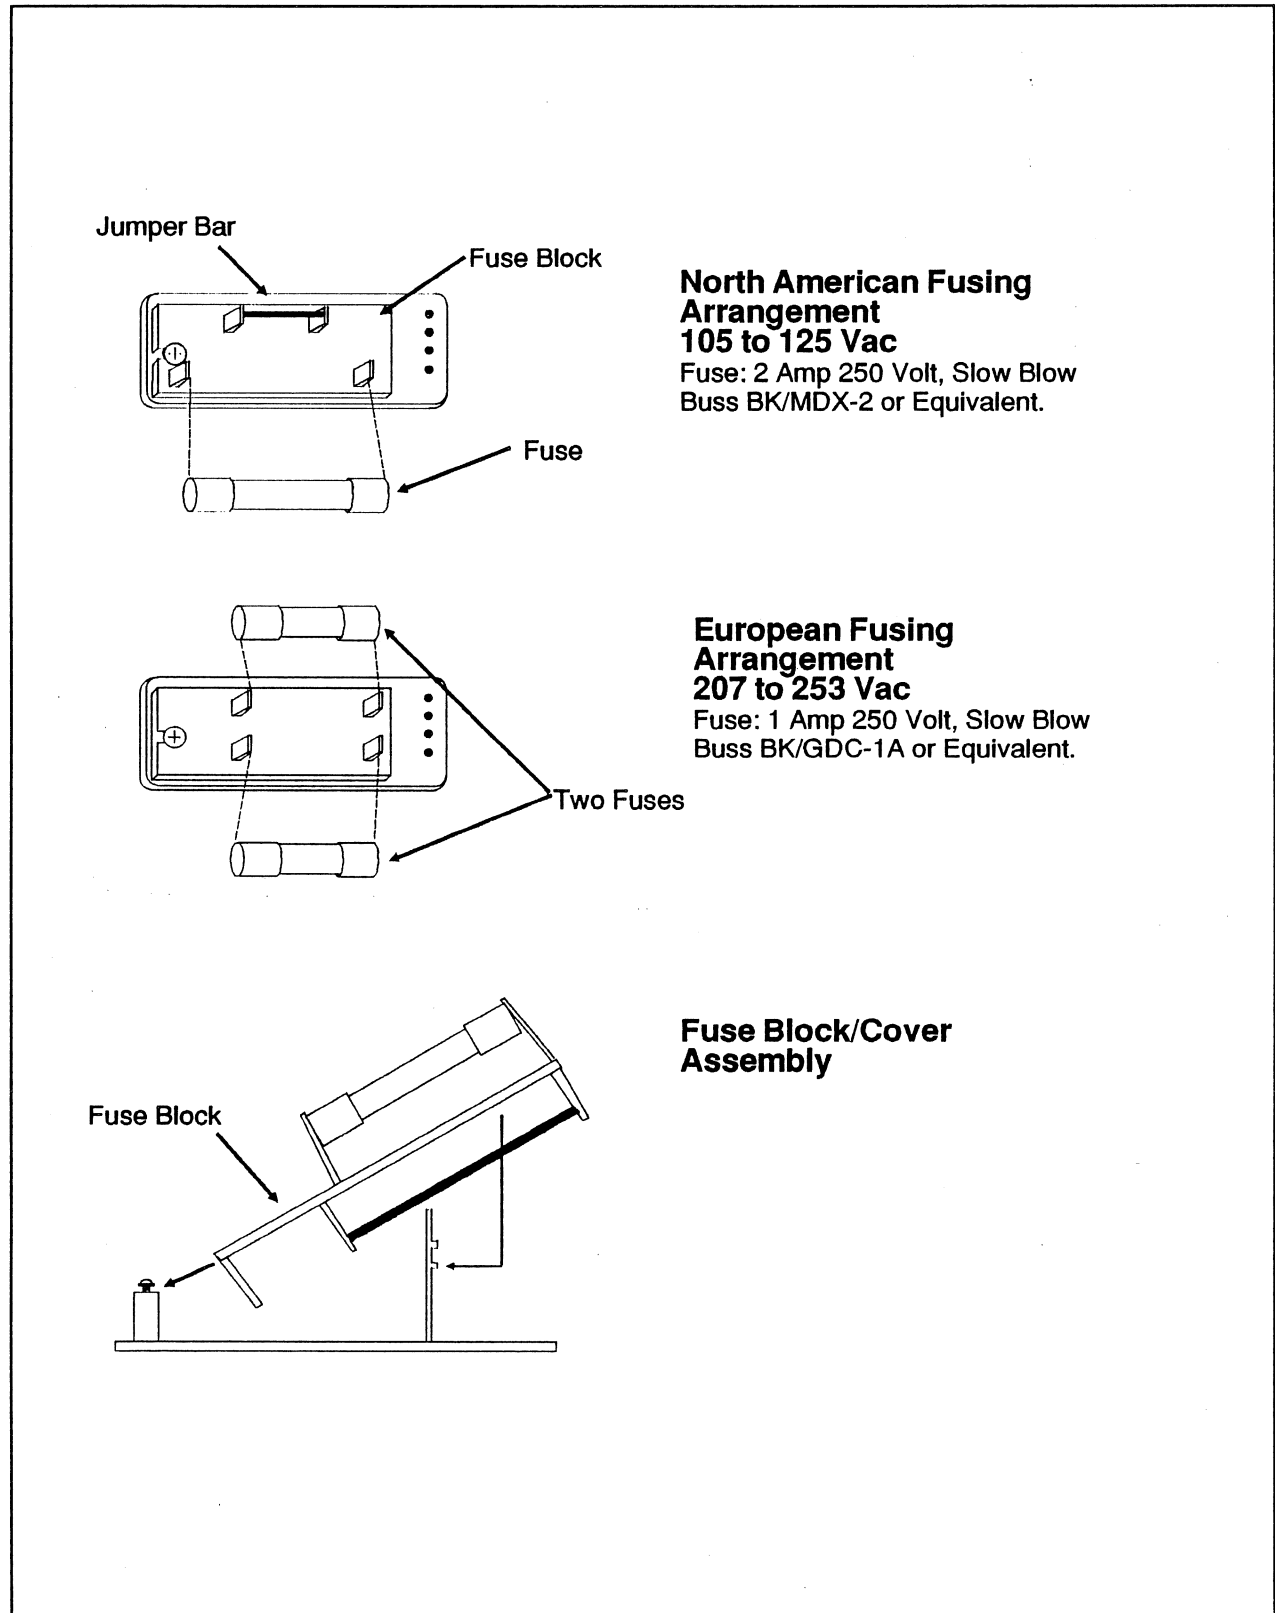

Figure 2-13. Changing the Fusing Arrangement
- 3 Flip the fuse block over and reinstall it to the cover. See Figure 2-13.